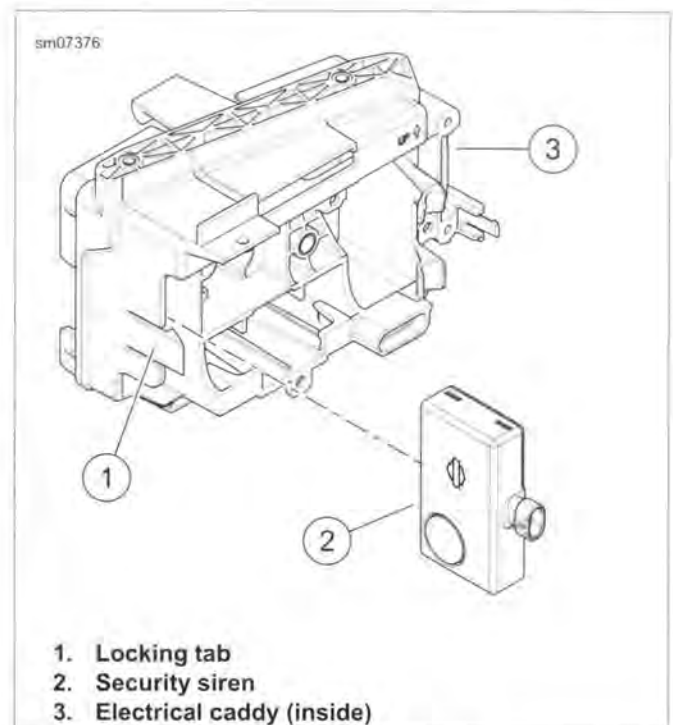

Figure 7-7. Security Siren
3. See Figure 7-7. Remove security siren (2) from electrical caddy.
1. See Figure 7-7. Install security siren (2) into back of electrical caddy.